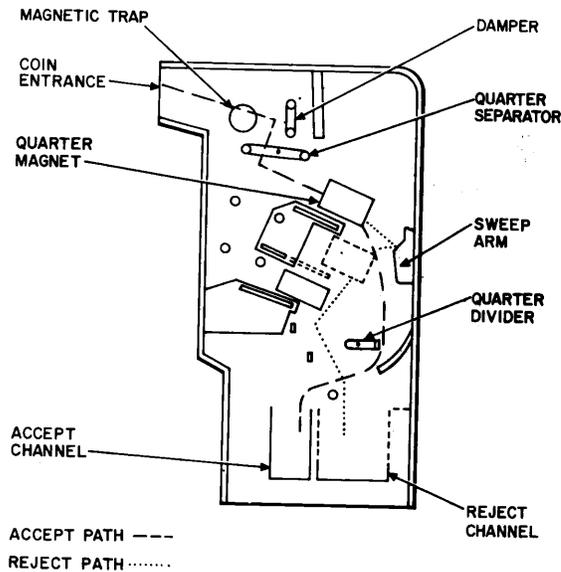

Fig. 4—Quarter Path in a Typical Coin Chute
2.05 Quarter Operation—Valid Coin Accepted (Fig. 4).
2.06 Quarter Operation—Coin Rejected (Fig. 4).